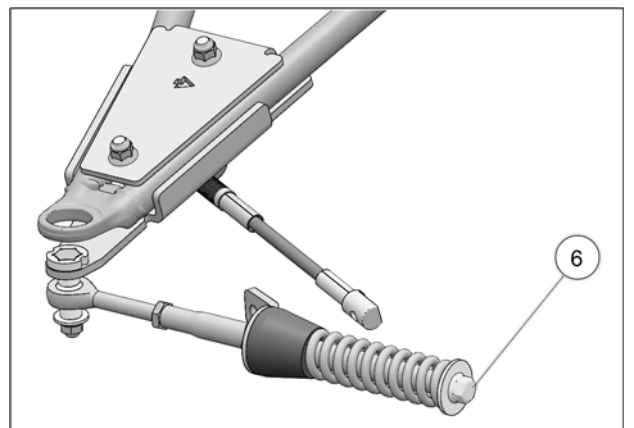

Fig. 26
15. Verify that spring assembly bolt (6) is tightened to the recommended torque specification: 75 N•m [55 lb•ft]. Refer to Fig. 26